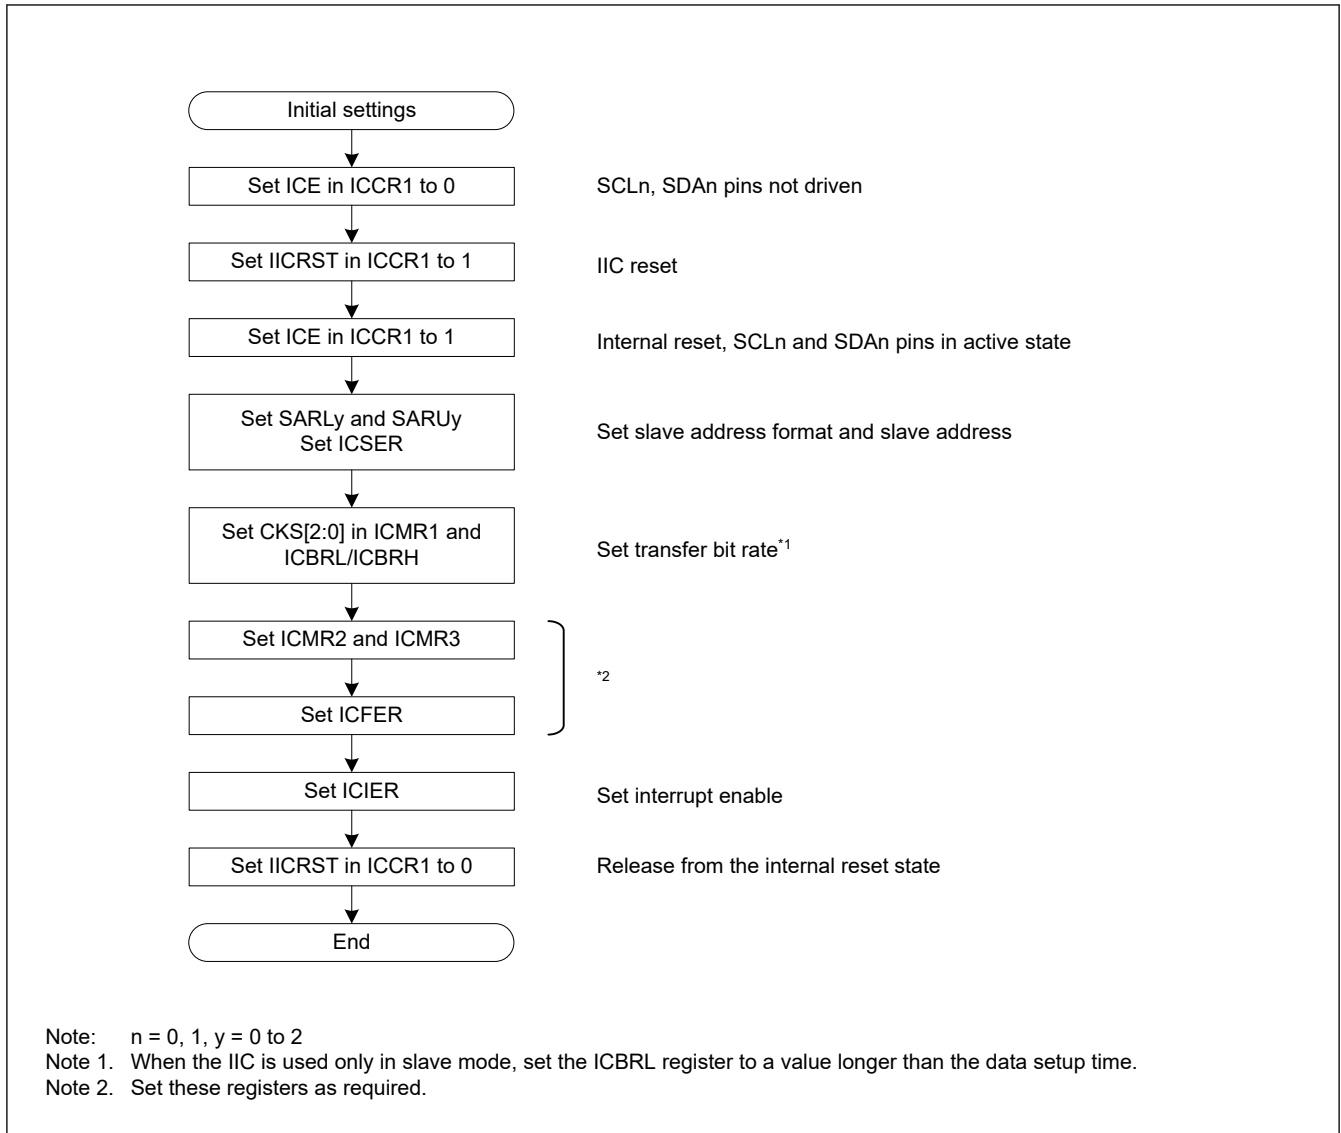

Figure 40.5 Example IIC initialization flow
Before starting data transmission or reception, initialize the IIC using the procedure shown in Figure 40.5.
4. Set the SARLy, SARUy, ICSEr, ICMR1, ICBRH, and ICBRL registers (y = 0 to 2), and set the other registers as required. For initial settings of the IIC, see Figure 40.5.